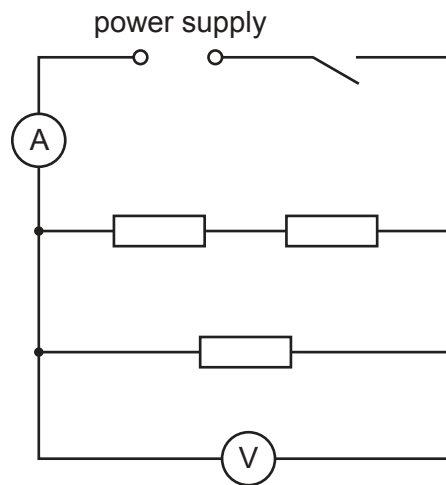

Fig. 2.1
- sufficient connecting leads to set up the circuit shown in Fig. 2.1 (see Note 3)
- 3 The circuit is to be set up for candidates as shown in Fig. 2.1, using the resistors. The lamps must be placed on the laboratory bench together with the one extra connecting lead, placed close to the circuit.
Reconnect the circuit as shown in Fig. 2.1.